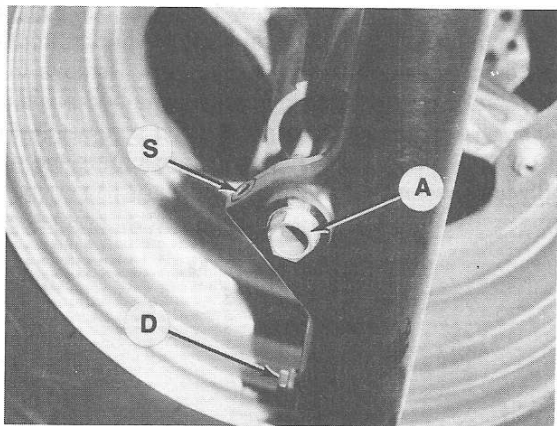

Fig. Y10-20—Axle shaft pinch screw (S) must be loosened prior to removing axle shaft (A). Remove drain plug (D) to drain oil from fork tube.
The front axle is supported by two roller bearings. To remove the axle assembly, first suitably support front of vehicle so front wheel is off the ground. Remove front wheel brake caliper retaining cap screws and withdraw brake caliper. Loosen axle shaft pinch screw (S—Fig. Y10-20). Remove axle shaft (A) to separate the axle and wheel assembly from the front forks.
To change fork oil, remove drain plug (D—Fig. Y10-20) at bottom of each fork and allow oil to drain into a suitable container. To refill, install and tighten plug (D) and add 334 mL (11.3 oz.) of 10 weight fork oil or SEA #10 fork oil.